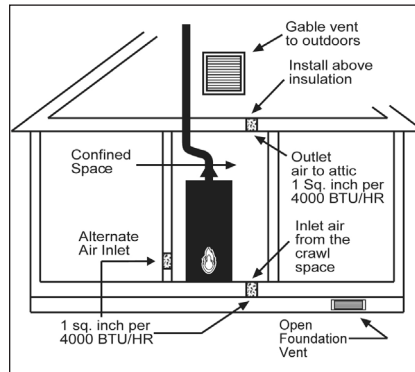

Figure 3 - Direct to Outdoors Openings
*Direct to outdoors	1 sq. in. per 4,000 BTU/HR (see Figure 3 on page 10)